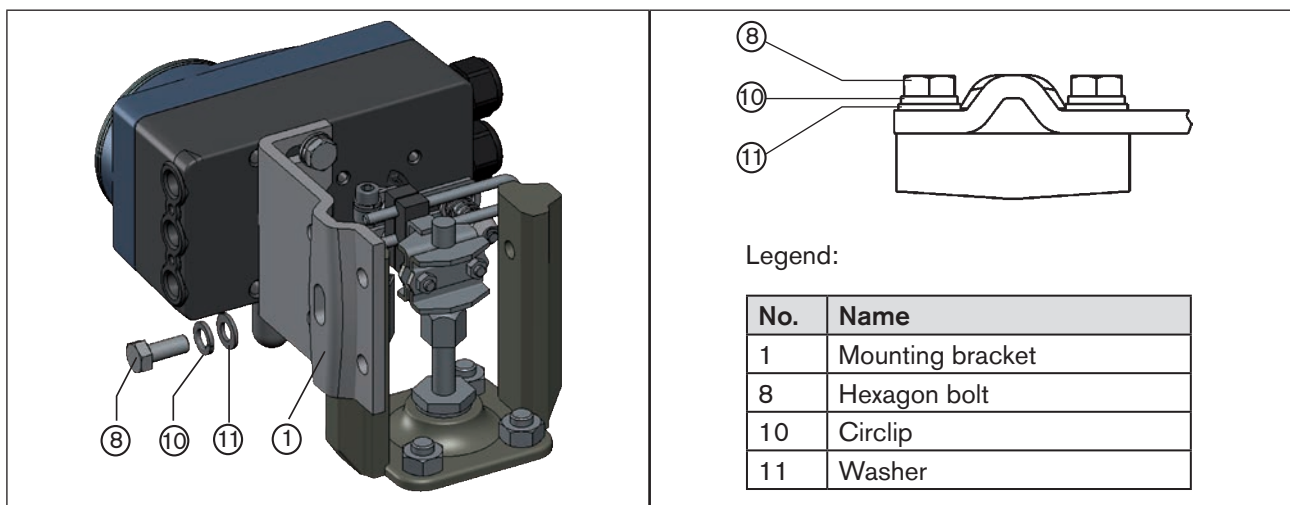

Figure 16: Attach Type 8792/8793 with mounting bracket; for actuators with cast frame
→ Attach mounting bracket to the cast frame with one or more hexagon bolts ⑧, washers ⑪ and circlips ⑩ (see "Figure 16").